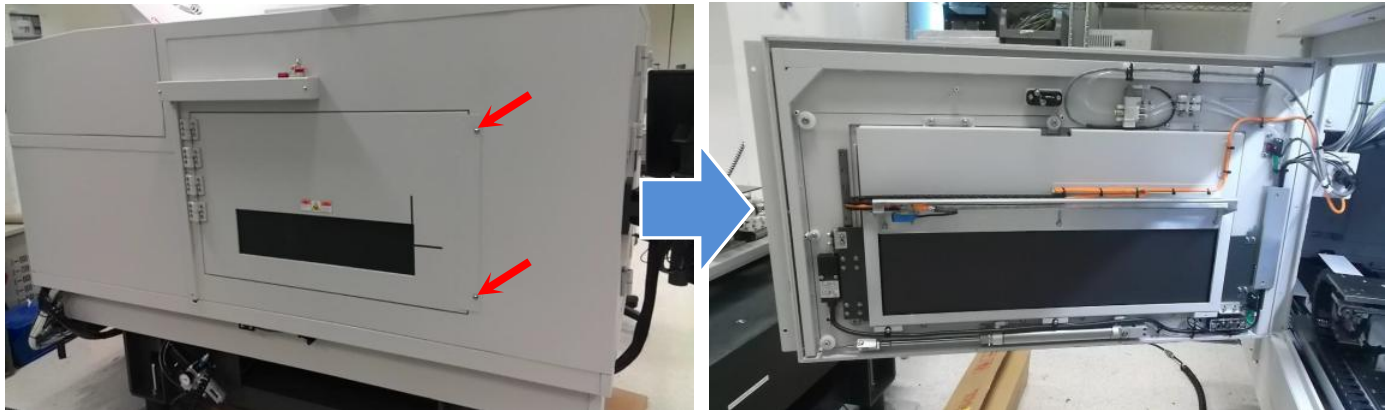

Figure 1 Right Outer Barrier (Open)
4. Loosen 2 x Tamper Proof screws as below Figure 1. Gently open outer barrier